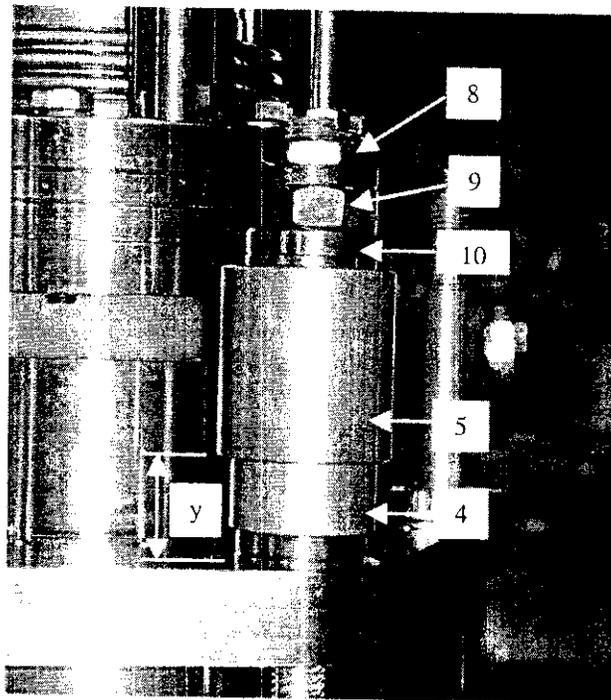
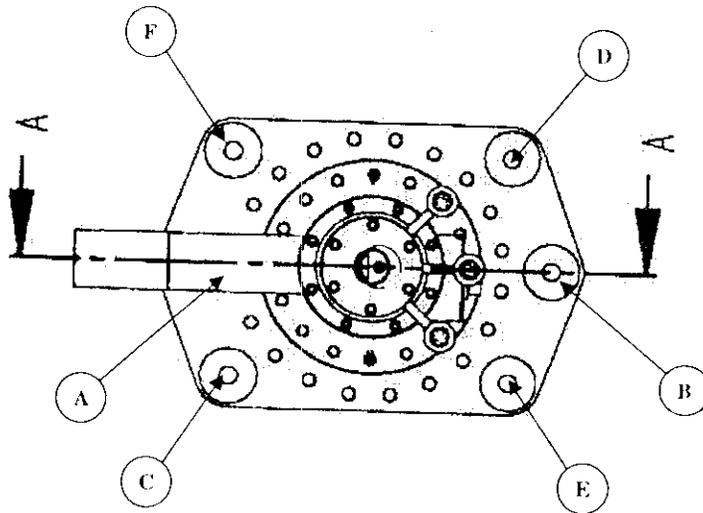

Figure 1.28a An installed Belleville Washer Assembly.
Figure 1.29.1.5 The specified sequence for tightening the Belleville Washer Assemblies.
- 1.28 Install Belleville Washer Assemblies on each tensioning stud per Figures 1.28a and 1.28b. A spherical washer must be placed below the Belleville washer holder on each stud. In the figures: Items 11 (10 each) are Belleville Washers, arranged as shown; Items 6 (2 each) are flat washers; Items 4 and 5 are the Belleville Washer Holder; Item 10 are Spherical Washers for above and below the washer holder; Item 9 is a loading nut; and Item 8 is a jam nut.
1.29.1.2 Tighten the 6 loading nuts finger-tight. With adjustable parallels, measure and record the gap "y" indicated in Figure 1.28a between Item 5 and the current lead top flange at the 6 locations specified in Figure 1.29.1.5. Units are mm.
1.29.1.4 Using the sequence A through F in Figure 1.29.1.5, tighten the loading nuts ¼ turn until the total compression is 1.8 mm at each of the six locations. As each loading nut is tightened ¼ turn, check off the appropriate line.
1.29.1.5 Record the final measured gaps 'y' in Figure 1.28a. Units are mm.
1.29.2.2 Tighten the 6 loading nuts finger-tight. With adjustable parallels, measure and record the gap "y" indicated in Figure 1.28a between Item 5 and the current lead top flange at the 6 locations specified in Figure 1.29.1.5. Units are mm.
1.29.2.4 Using the sequence A through F in Figure 1.29.1.5, tighten the loading nuts 1/4 turn until the total compression is 1.8 mm at each of the six locations. As each of the loading nuts is turned 1/4 turns, check off the appropriate line.
1.29.2.5 Record the final measured gaps 'y' in Figure 1.28a. Units are mm.